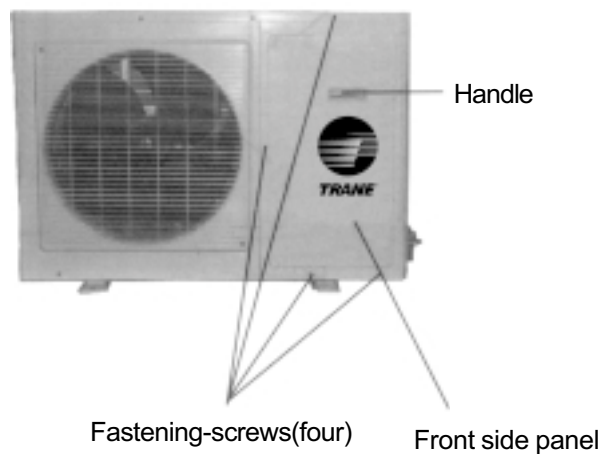

Figure 35
- ① Disassemble the front side panel.
- Unscrew the four fastening-screws on the front side panel as shown in figure 35.